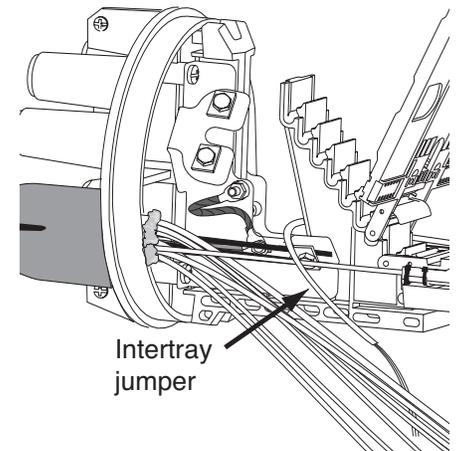

Figure 26
4. Guide the jumper through the opening in the tray mounting bracket to the appropriate destination tray and position it in the tray. (Figure 26)